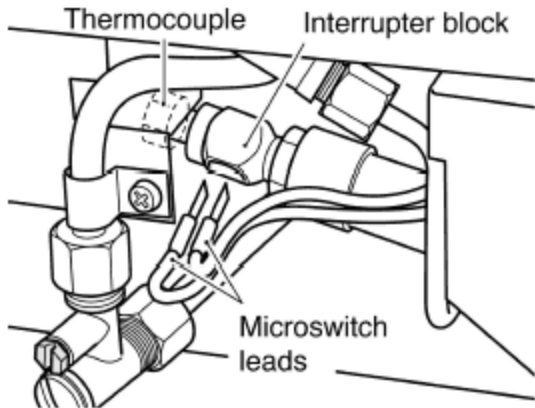

Figure 36. Thermocouple interrupter block
2. Loosen the thermocouple nut to free the microswitch leads and pull the leads clear of the thermocouple interrupter block (See figure 36).
(See figure 36).